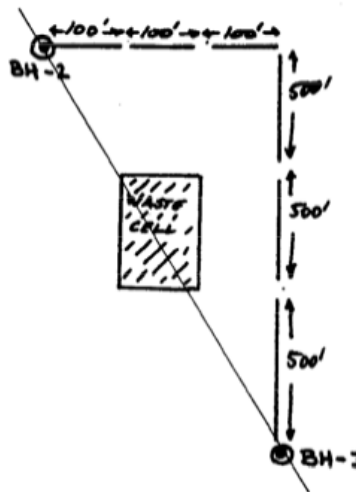

Figure 1: Plan View of an Waste Disposal Cell
- Figure 1 is a plan view of a waste cell at a solid waste disposal site. Two borings are completed in the water table aquifer underlying the disposal site property.